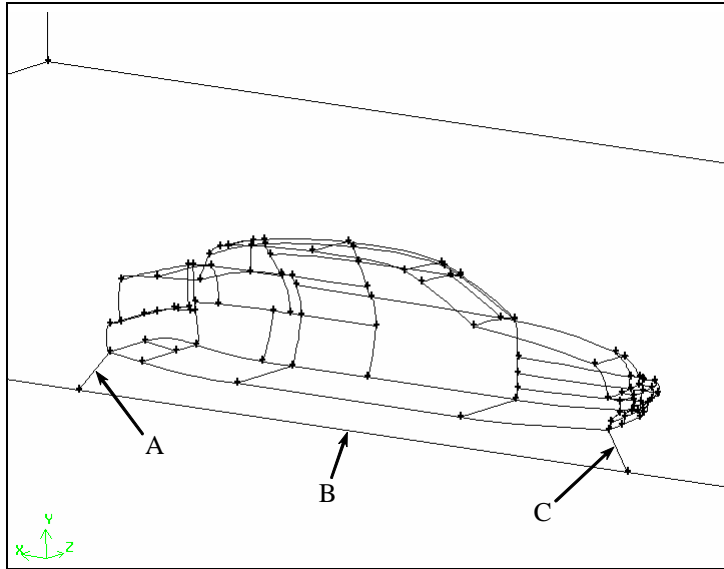

Figure 5-25: Edges underneath the sedan to be selected for edge meshing
- a) Select the edges marked A, B, and C in Figure 5-25 (the two small edges you created underneath the sedan and the middle section of the edge underneath the sedan that you split into three sections).